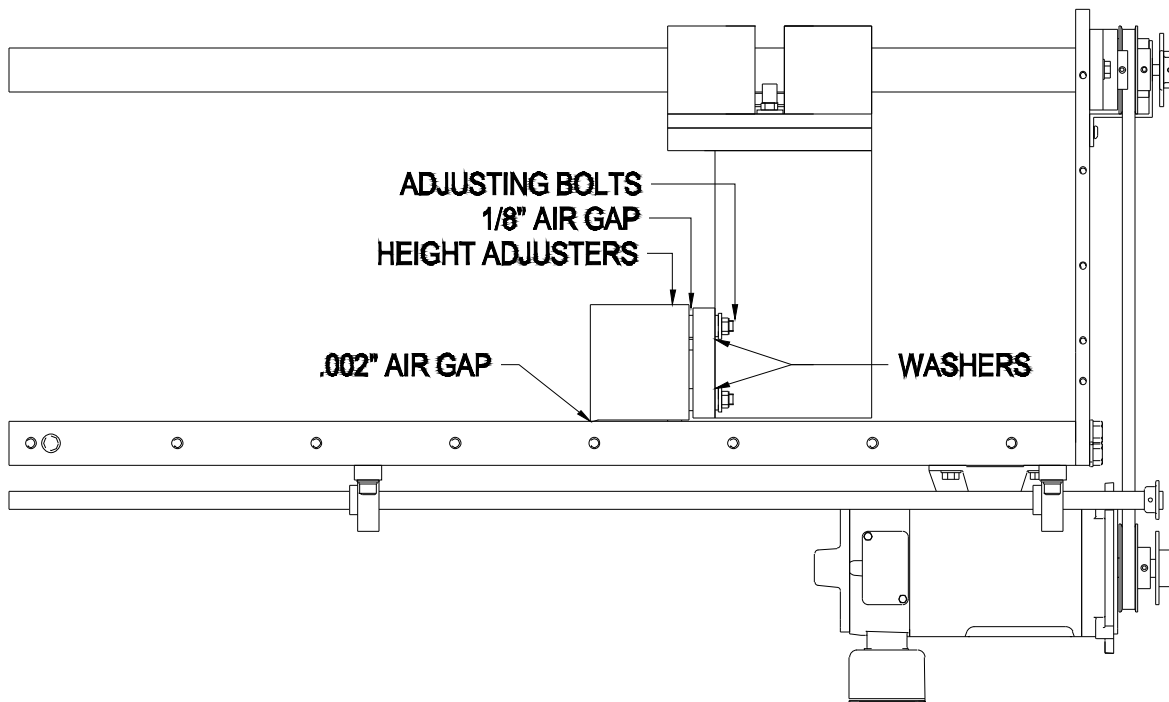

Fig 41
The backgauge fingers are designed to have a .002" air gap from the table and 1/8" air gap from its mounting plate. The adjustments for both of these are a combination of the height adjusters and the adjusting bolts. There are springs between the backgauge fingers and the mounting plate that hold the 1/8" air gap. After adjusting, the washers on the back of the mounting plate should not be loose. Fig 41.
4. If the top sheet is longer than the bottom sheet, loosen the top two (2) hex nuts with a 9/16" wrench and tighten the bottom two (2) hex nuts. Use small amounts of movement to avoid over adjusting. Always adjust all the nuts the same amount of movement and make sure that the washers are not loose after the adjustment is complete. Fig. 41.
5. Check the .002" air gap between the table and the backgauge first with a feeler gage whenever step 4 is completed. Adjust the two (2) height adjusters Fig 41 with a 1/8" Allen Wrench. Clockwise movements will raise the fingers from the table.